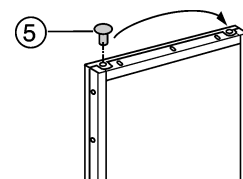

Fig. 5
- ▶ Transfer the stopper Fig. 5 (5).